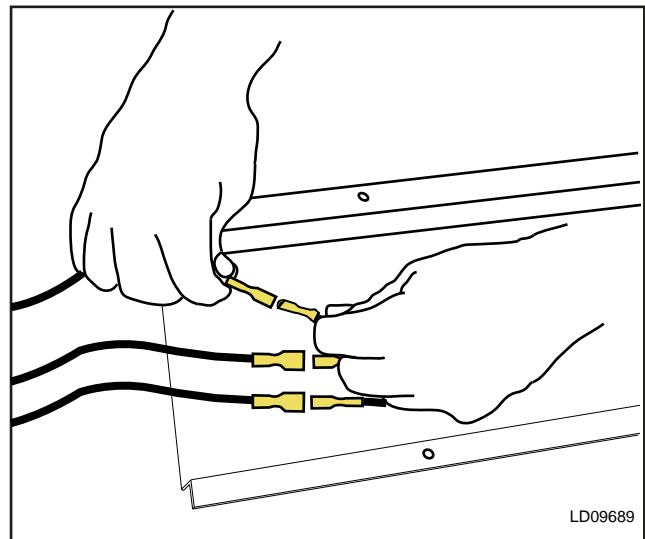

FIG. 5-103 – REMOVE ELECTRICAL CONNECTORS
3. Disconnect “stake-on” electrical connectors (see Fig. 5-103).